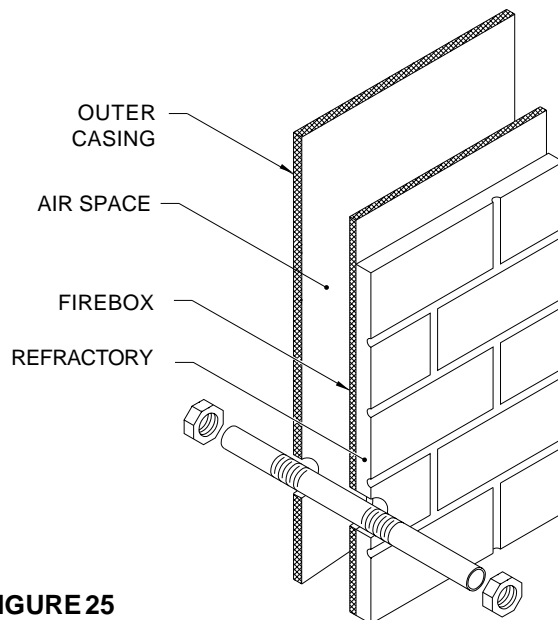

FIGURE 25
4. Insert the pipe so that it passes through both sheet metal holes and fasten in place using the 25mm(1") diameter nuts. The pipe should be located so that it will be flush with the back of the refractory. See figure 25.